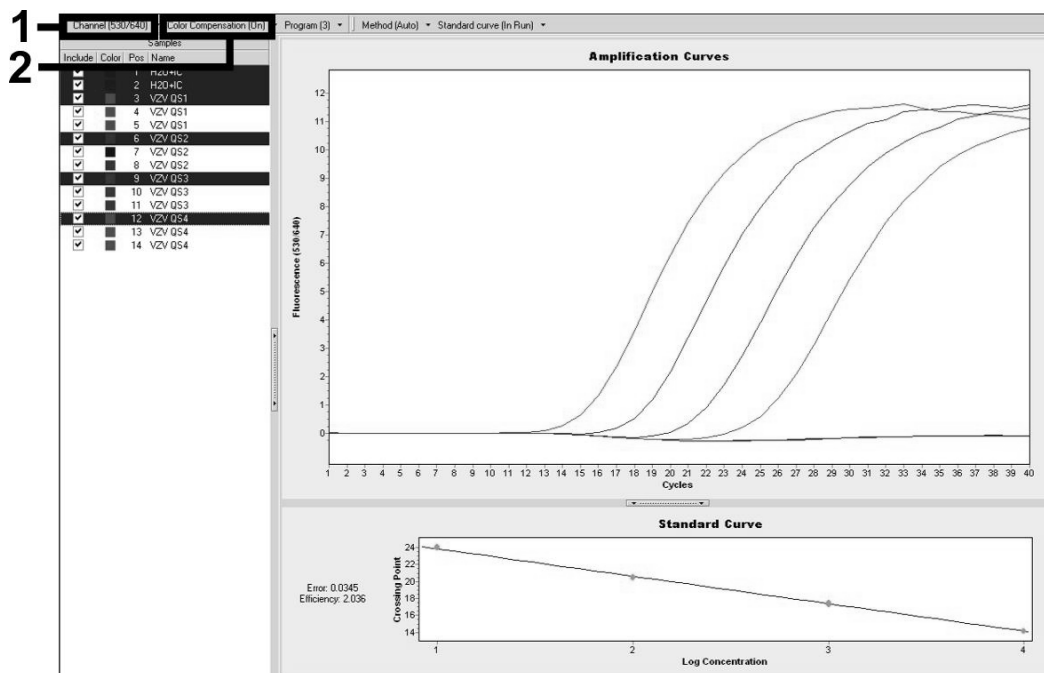

Fig. 11: Activation of the *Color Compensation File* and selection of the fluorescence channel.
For the analysis of PCR data please proceed as follows (see Fig. 11):
- The *LightCycler* Software Version 4.0 contains a file termed *Color Compensation File*, which compensates multicolour analyses interferences between fluorescence channels. Open this file before, during or after the PCR run by activating the *Color Comp (On/Off)* and then the *Select Color Compensation* button (see Fig. 11). If no *Color Compensation File* is installed, generate the file according to the instructions given in the *LightCycler Operator's Manual*.